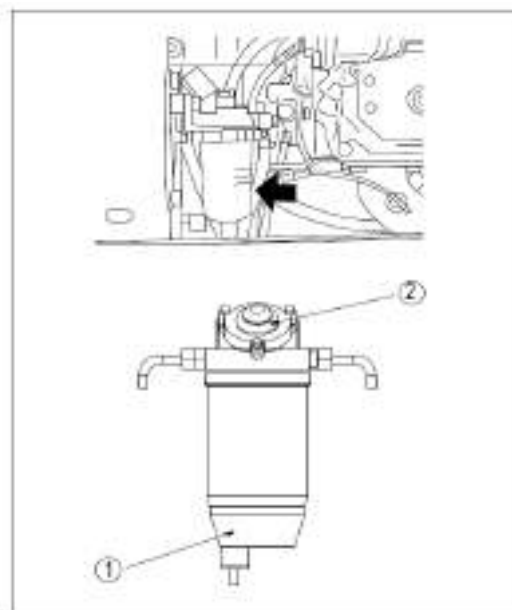

Figure 4-12 Oil-water separator
b). Find the oil-water separator as shown in Figure 4-12 and put a container under the oil-water separator for oil discharge.
c). Open the drain valve ① at the bottom of the oil-water separator and discharge the water and sediments into the container.